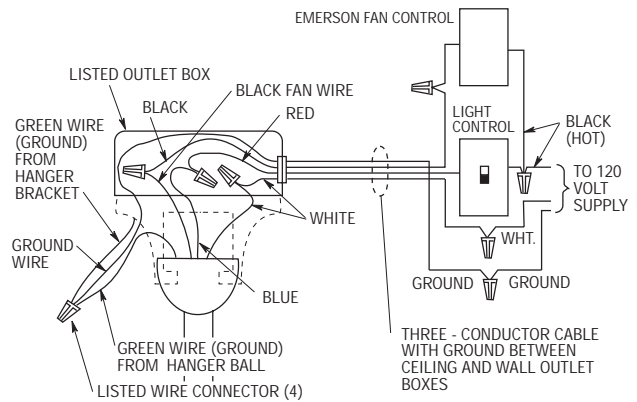

Figure 29
22. For a wall control installation you will need a three-wire (with ground) conductor cable between the ceiling and wall outlet boxes. This will allow you to control the fan separately from the lights. Figure 29 is a basic wiring diagram that will control the uplight and downlight on a switch and the fan on a separate control. Refer to the installation instructions and wiring diagrams supplied with the Emerson Fan Control Owner's Manual.